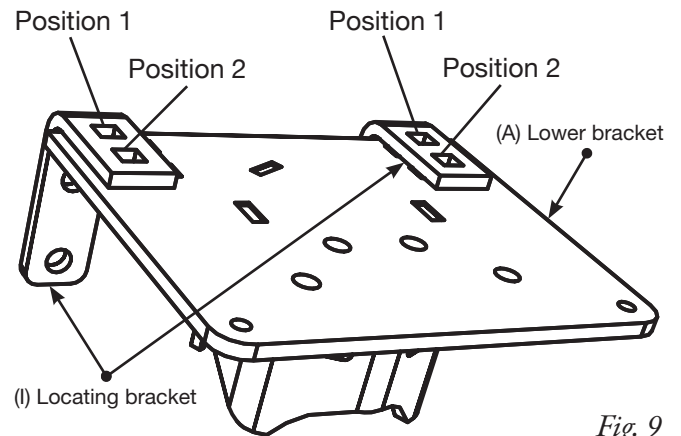

Fig. 9
1. Insert a 3/8"-16 x 5 1/2" hex head bolt (K) and flat washer (W) into one of the two bottom holes of the locating bracket (I) (Fig. 9).
- 2a. If you are installing this kit on a single rear wheel (SRW) vehicle, use position 2 to insert the long 3/8"-16 x 10" carriage bolt (Q) through the top of the locating bracket and lower bracket (Fig. 9).
- 2b. If you are installing this kit on a dual rear wheel (DRW) vehicle, use position 1 to insert the long 3/8"-16 x 10" carriage bolt (Q) through the top of the locating bracket and lower bracket (Fig. 9).
3. Attach the locating bracket (I) to the lower bracket with a 3/8"-16 x 1 1/4" carriage bolt (P), flat washer (W) and nylon lock nut (V) using the remaining slot in the top of the locating bracket. Leave loose at this time.
5. Using the 3/8"-16 x 5 1/2" hex head bolts (K) and flat washers (W) previously installed on the locating brackets, insert them into the spring clamp bar (E) on the opposite side of the leaf spring assembly (Fig. 9). Cap with 3/8" flat washers (W) and nylon lock nuts (V). Leave loose at this time.